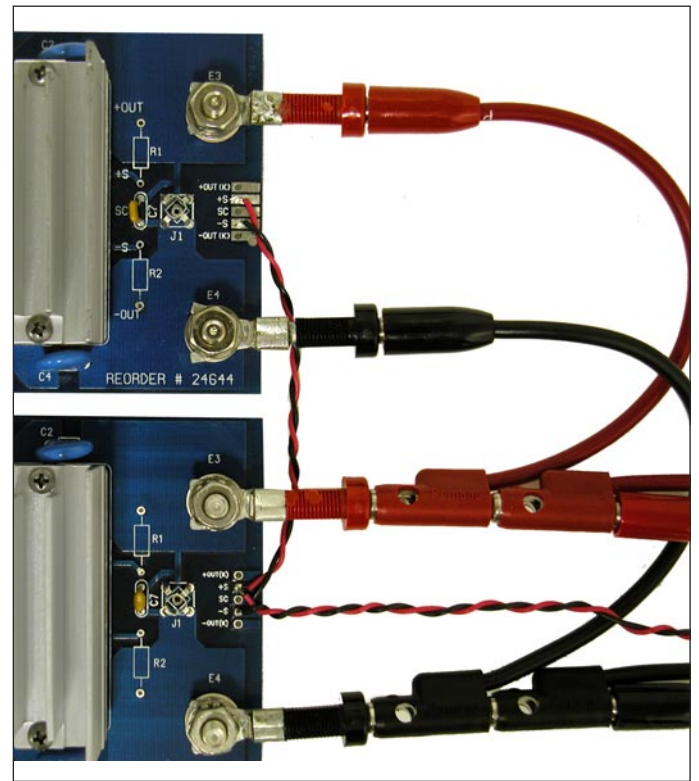

Figure 8: Sense line termination, sense lines end at a common point
5. Connect a twisted pair to the +S and –S connections on the output side of each evaluation board. It is critical that these two wire pairs are both terminated at the same point for proper load sharing, Figure 8.